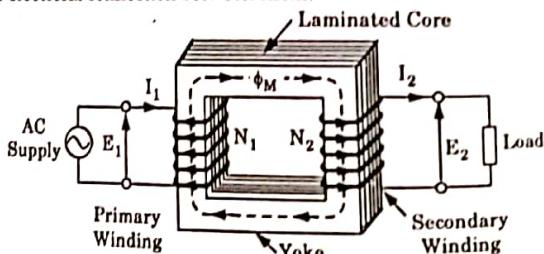

Fig. 4.2.1. Arrangements of a transformer.
1. Consider two coils 1 and 2 wound on a simple magnetic circuit as shown in Fig. 4.2.1. These two coils are insulated from each other and there is no electrical connection between them.
4. The mean path of this flux is shown in Fig. 4.2.1 by the dotted line.